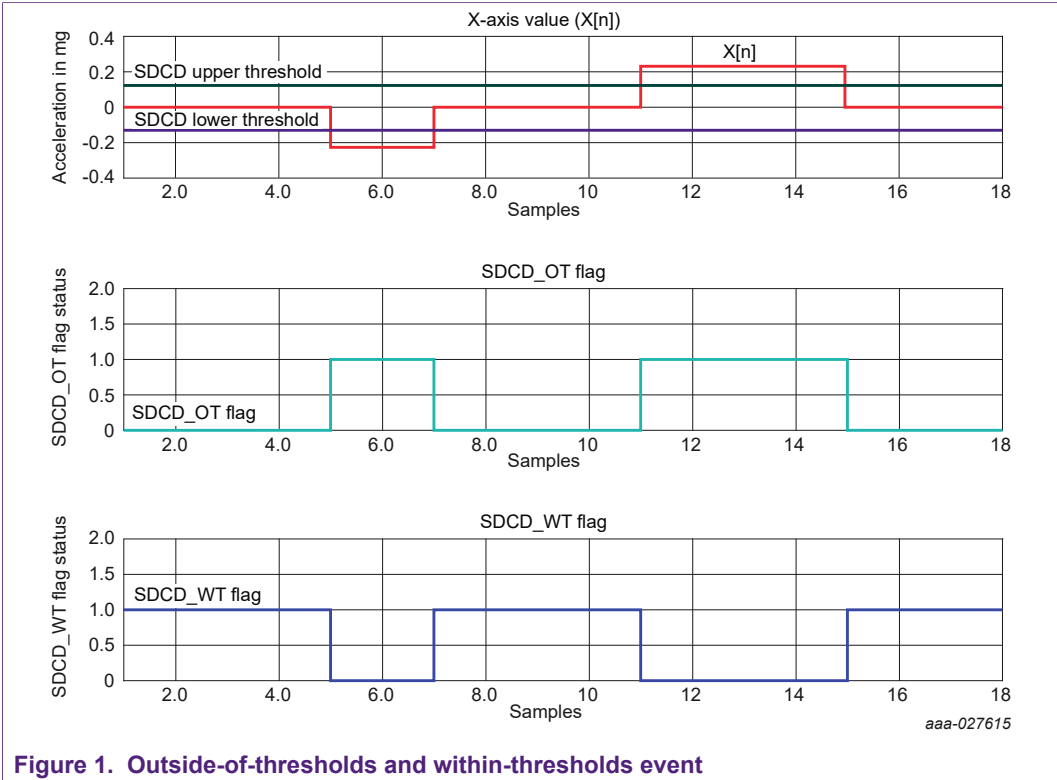
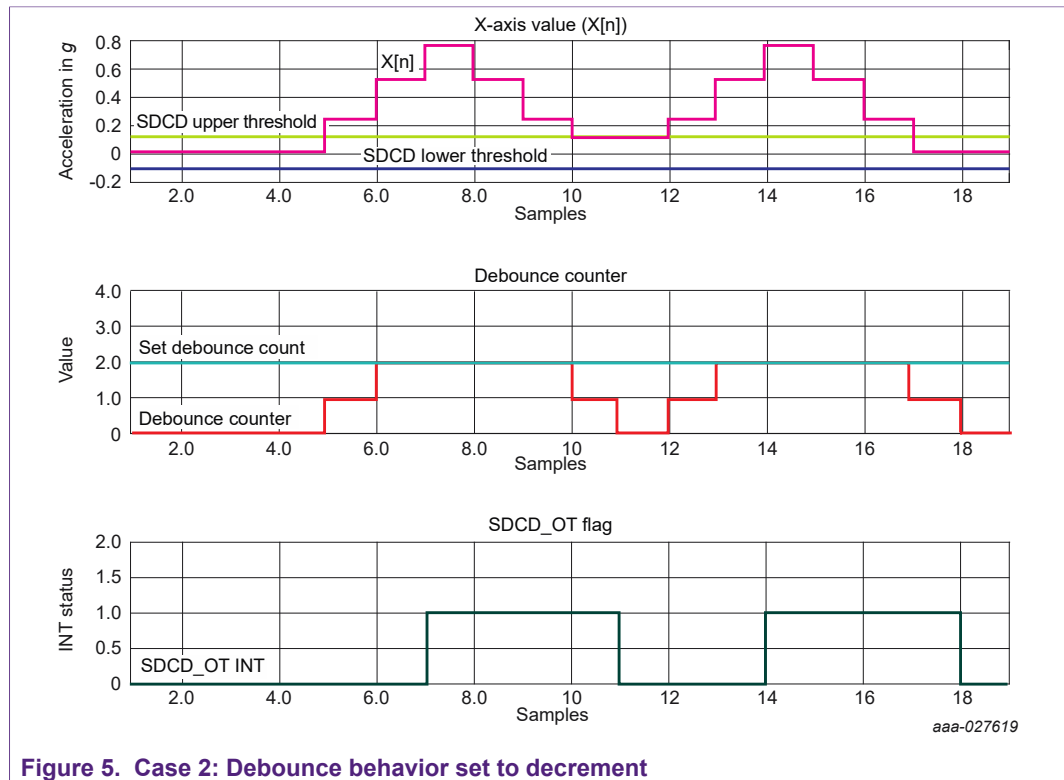

Figure 1. Outside-of-thresholds and within-thresholds event
Figure 5. Case 2: Debounce behavior set to decrement
Simply stated, the acceleration data input ( $X[n]$ , for example) to the SDCD block is compared against a set of user programmable upper and lower thresholds (see Figure 1) in absolute or relative mode. For simplicity, only the absolute mode of operation is presented. The relative mode of operation is covered in Section 2.5 "Reference update modes".
When the debounce count is set to 0 (Figure 1), the interrupt is generated as soon as the input signal meets the threshold criteria for the OT or WT events. The interrupt is also cleared as soon as the condition becomes false.
- 0b11: The function uses a fixed value of 0 for each of the SDCD\_REF\_X/Y/Z registers, making the function operate in absolute comparison mode. (Example Figure 1, Figure 4, Figure 5 shows the SDCD block usage in absolute mode)